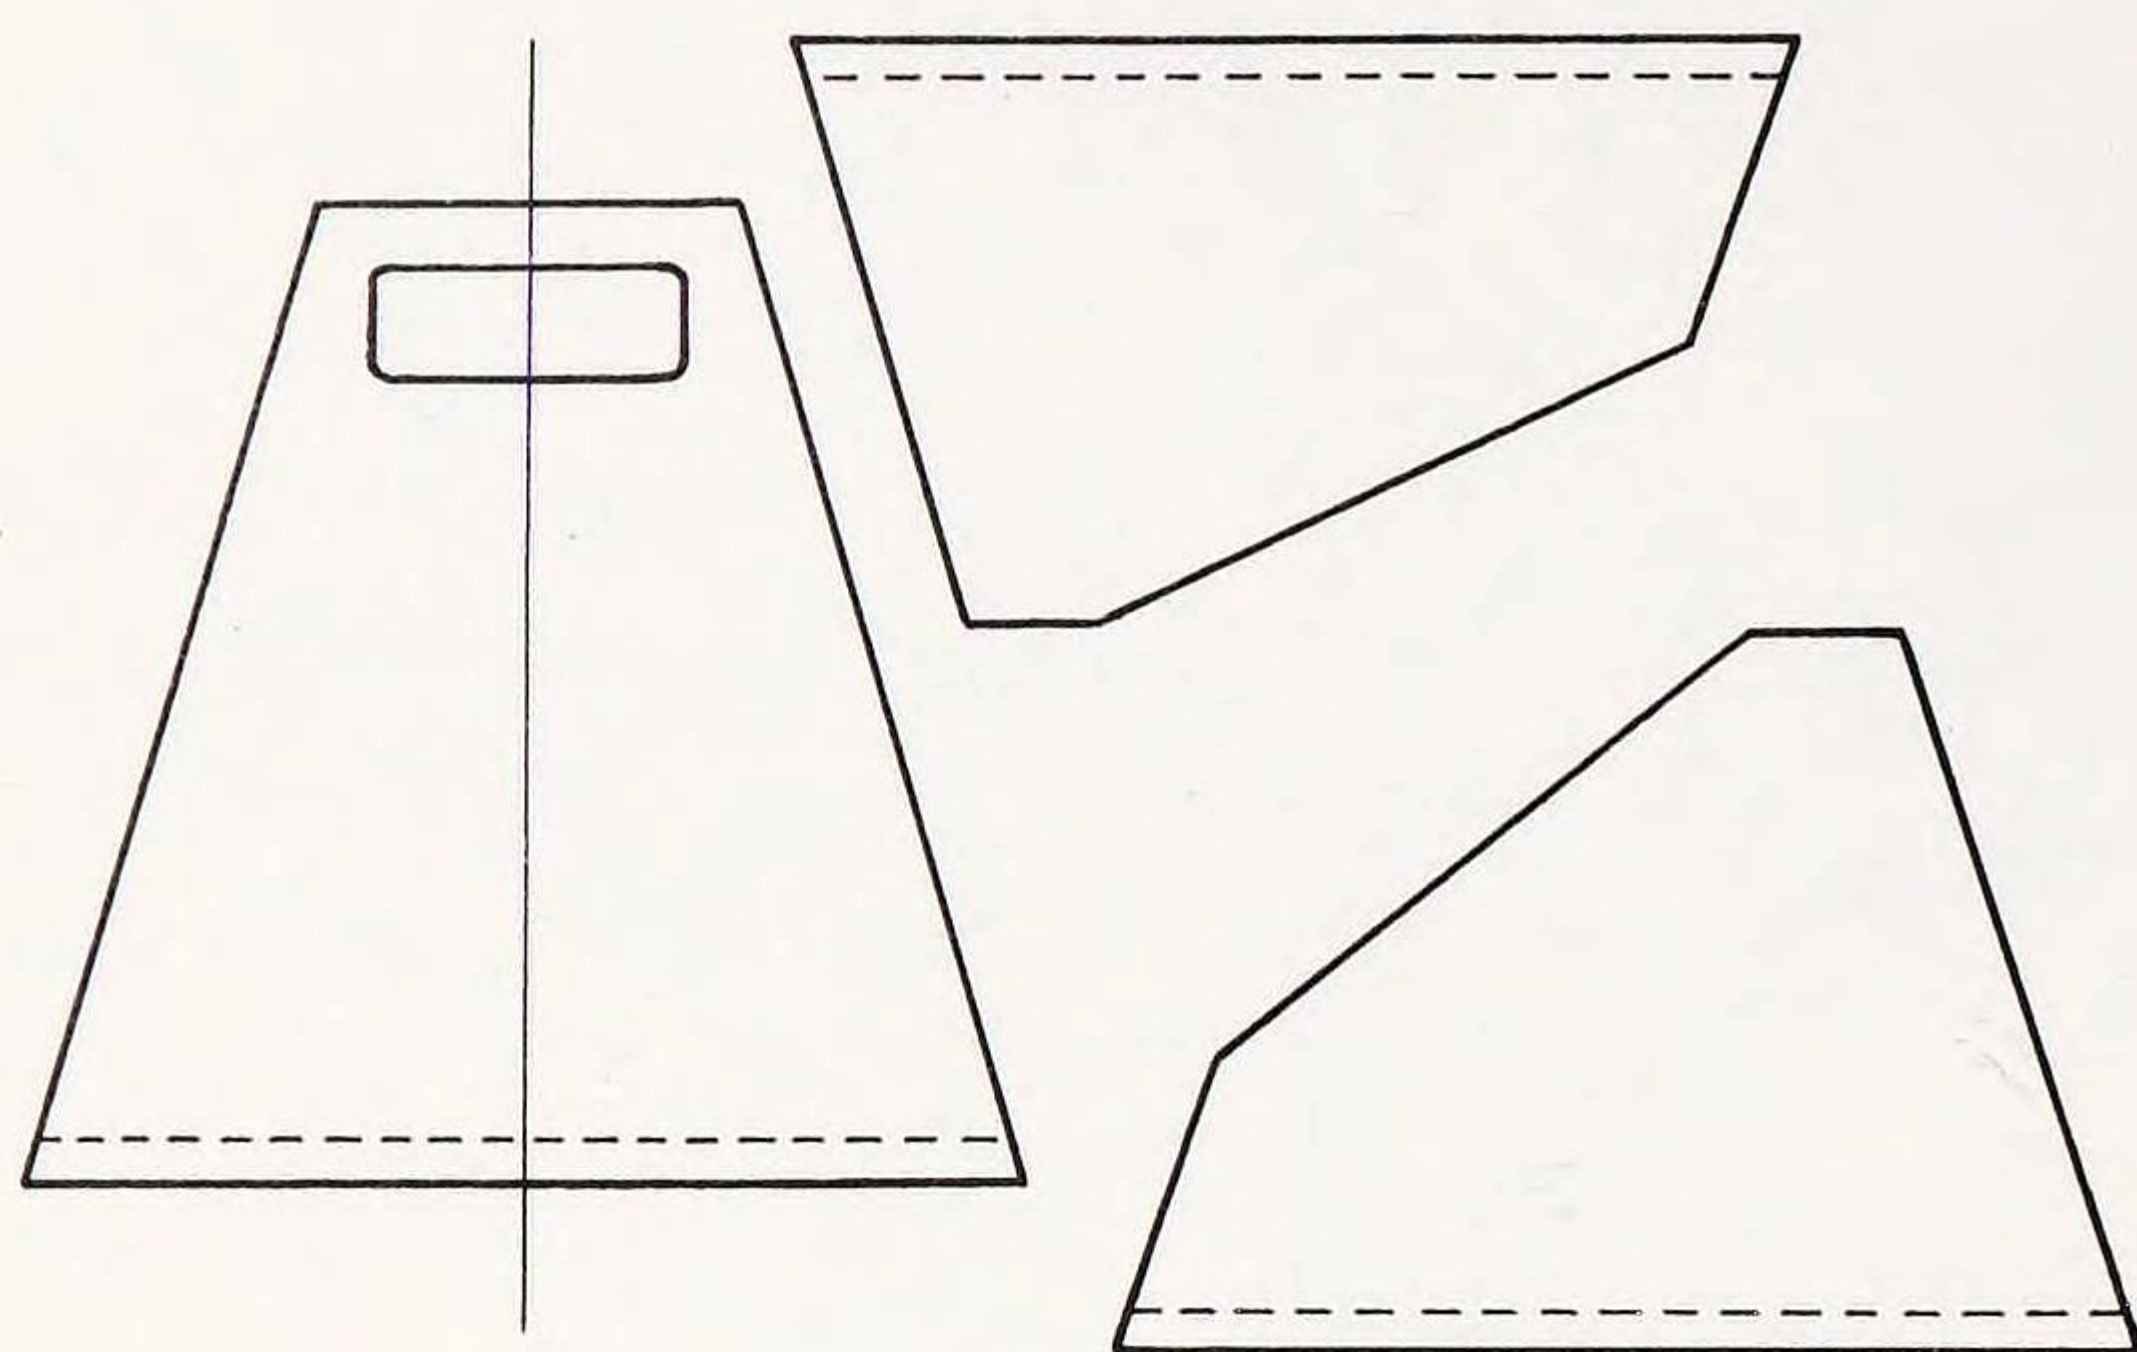

Fig. 4 The three shapes required for the five fins
3. To make the fins, mark and cut the five sheets to the required shapes, making the centre fin with $\frac{3}{8}$ in (9 mm) ply and the other four with $\frac{1}{4}$ in (6 mm) ply (Fig. 4).